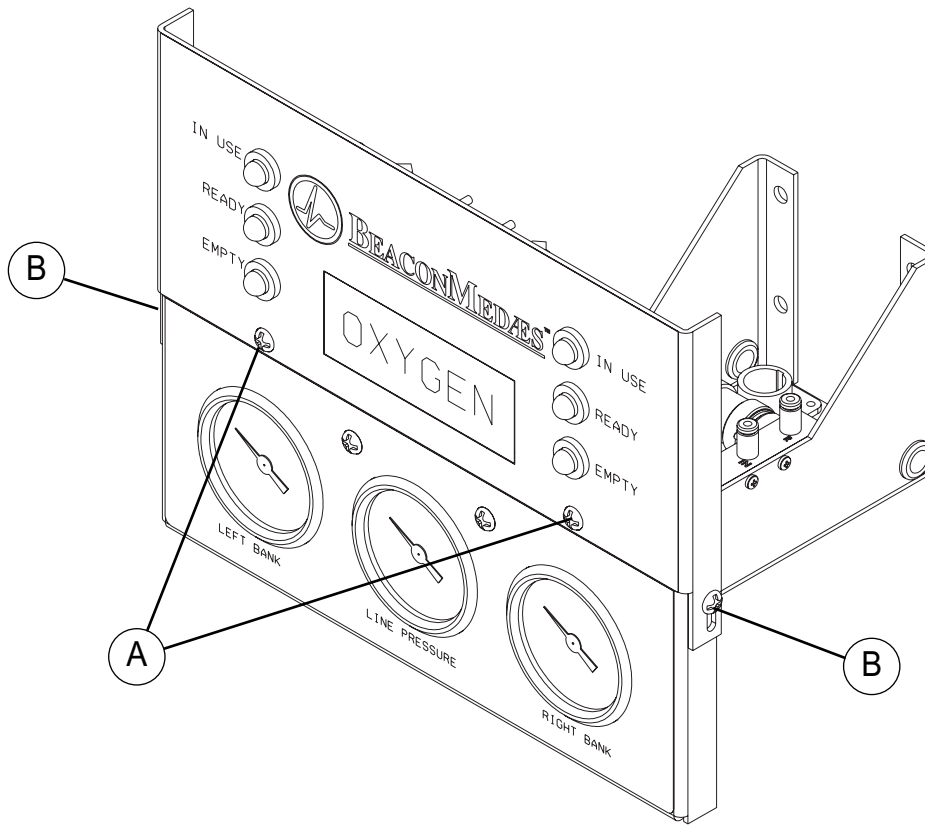
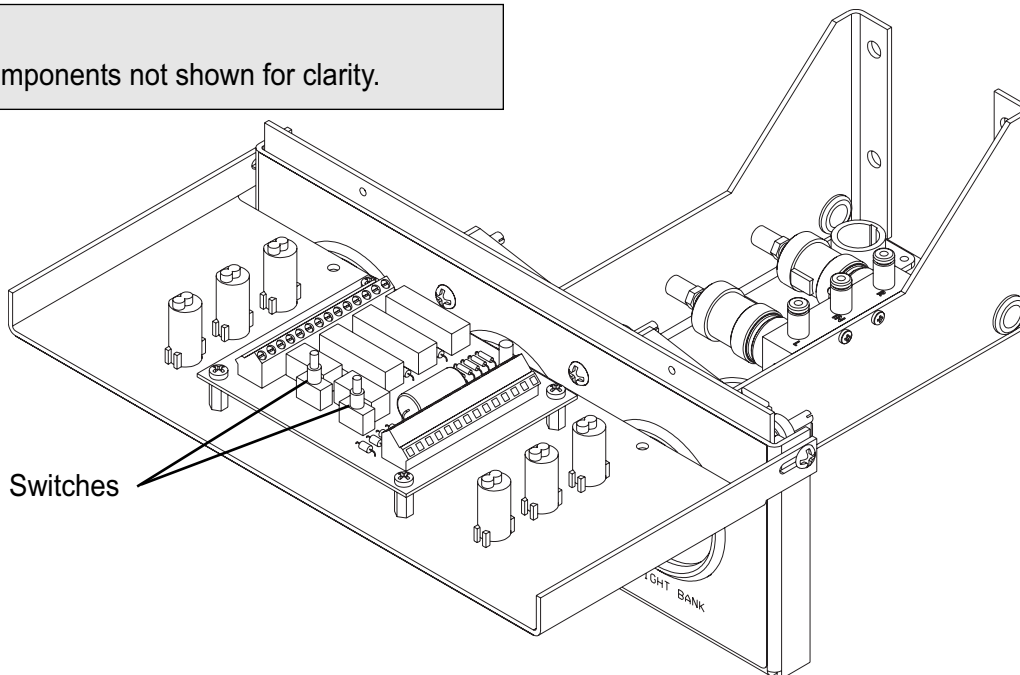

Figure 23
Figure 24
manifold so that right bank is in use. If right bank green light is illuminated, proceed to next step. If left bank green light is illuminated, manually switch manifold to right side by pressing left switch on control board (Figure 24).
1. Remove two front panel screws A (Figure 23). Loosen two hinge screws B. Fold front panel down to service position as shown in Figure 24. Lightly tighten two hinge screws.
2. Using circuit board switches (Figure 24), switch manifold to bank whose pressure switch is to be adjusted. For example, if pressure switch on right side is to be adjusted, press left circuit board switch so that green "IN USE" light on right bank is illuminated.
2. Use circuit board switches (Figure 24) to set right bank as primary “IN USE” bank.